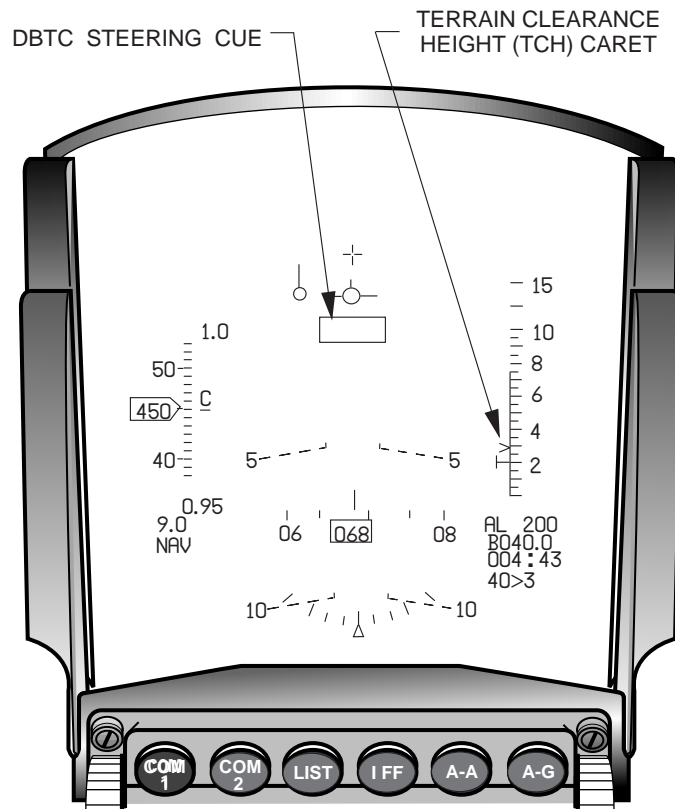

Figure 2-40 DBTC Indications on the HUD
**Database Terrain Cueing (DBTC).** The DBTC function provides the pilot with a manual vertical steering cue in the HUD to help maintain specified AGL altitudes during low altitude flying operations. The steering cue (Figure 2-40) is a rectangle similar to the LANTIRN Terrain Following (TF) box in the Block 40 aircraft. Working off of TRN's estimated aircraft position, the DBTC's algorithms scan the DFM ahead of the aircraft to generate the vertical steering commands necessary to clear the terrain and obstacles at or near a pilot selectable Terrain Clearance Height (TCH). The DBTC scan area is equivalent to the PGCAS scan area shown
The HUD DBTC indications (Figure 2-40) include a vertical steering cue, a TCH depiction, and a Low Terrain Clearance (LO TC) warning message. Vertical steering for terrain and obstacle clearance is provided by a 10mr by 30mr box (DBTC Cue) which appears in the approximate center of the HUD FOV. Centering the FPM inside the DBTC Cue will provide the flight path necessary to maintain the pre-selected TCH over the terrain. The DBTC Cue is programmed to require the pilot to pull a maximum of -0.9 g to +2.0 g to maintain the FPM in the DBTC Cue. An altitude caret on the left edge of the HUD altitude scale indicates the selected TCH altitude. The low terrain clearance warning is displayed as a “LO TC” message in the center of the HUD when the aircraft radar altitude is below 75 percent of the TCH.